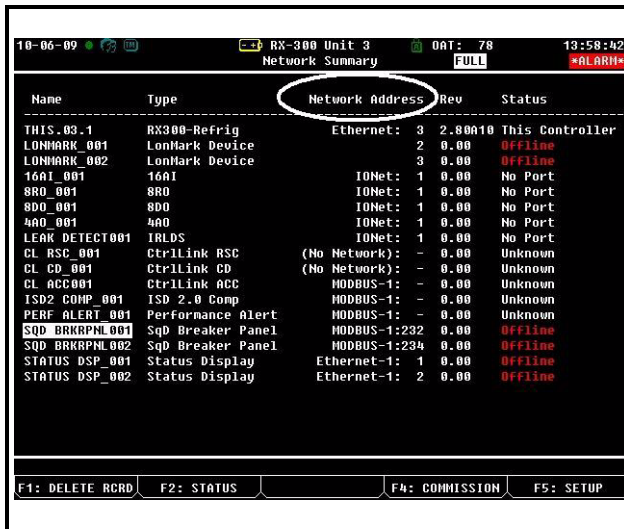

Figure 2-8 - Network Summary Screen
- Press to return to the Network Setup menu, then select **1** - **Network Summary** (Figure 2-8).
The addresses start at 232 (displayed under the **Node/Board#** column in *Figure 2-8*) for the first panel (“master” panel) and 234 for the second panel (“slave” panel #1), 236 for the third panel (“slave” panel #2), up to a total of eight panels. One “master” and seven “slave” panels.